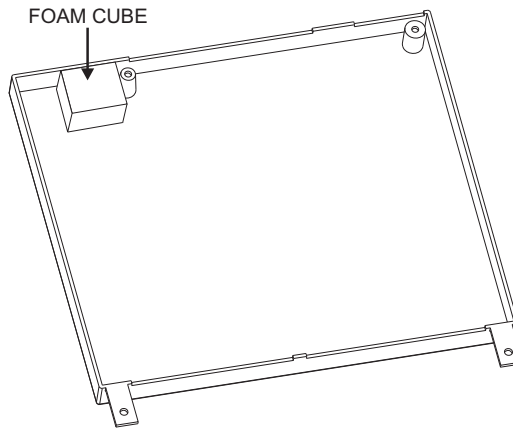

Figure 4
2. Position the foam on the inside of the PMI rear cover as shown in Figure 4.